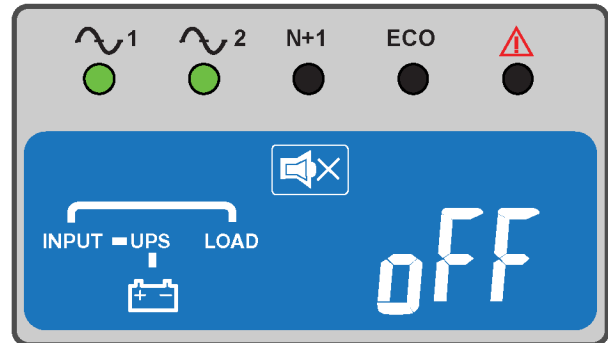

Figure 4.1 UPS OFF
- c) The UPS is now effectively operating ON BYPASS and will run through a series of self-checks which, if successful, will turn on the battery charger and display the UPS OFF screen (Figure 4.1).